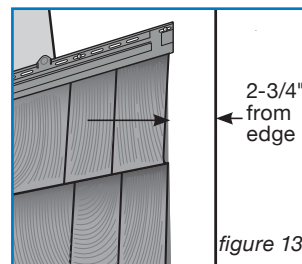

figure 13
2. Install the first Cedar Impressions panel 2-3/4" from the edge of the outside wall (figure 13).